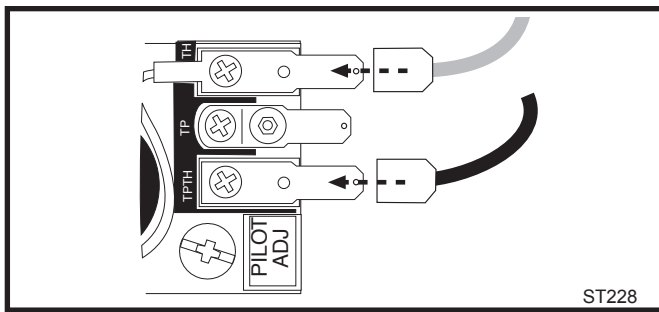

Fig. 49 Attach switch wires to valve.
3. Attach wires to valve terminals. (Fig. 49)
2. Connect the thermostat wires to the valve. (Fig. 49)